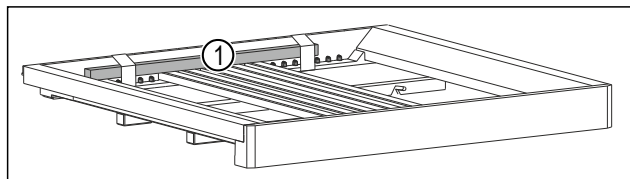

Fig. 3 \*
- ▶ Remove the wooden stick *Fig. 3 (1)*.\*